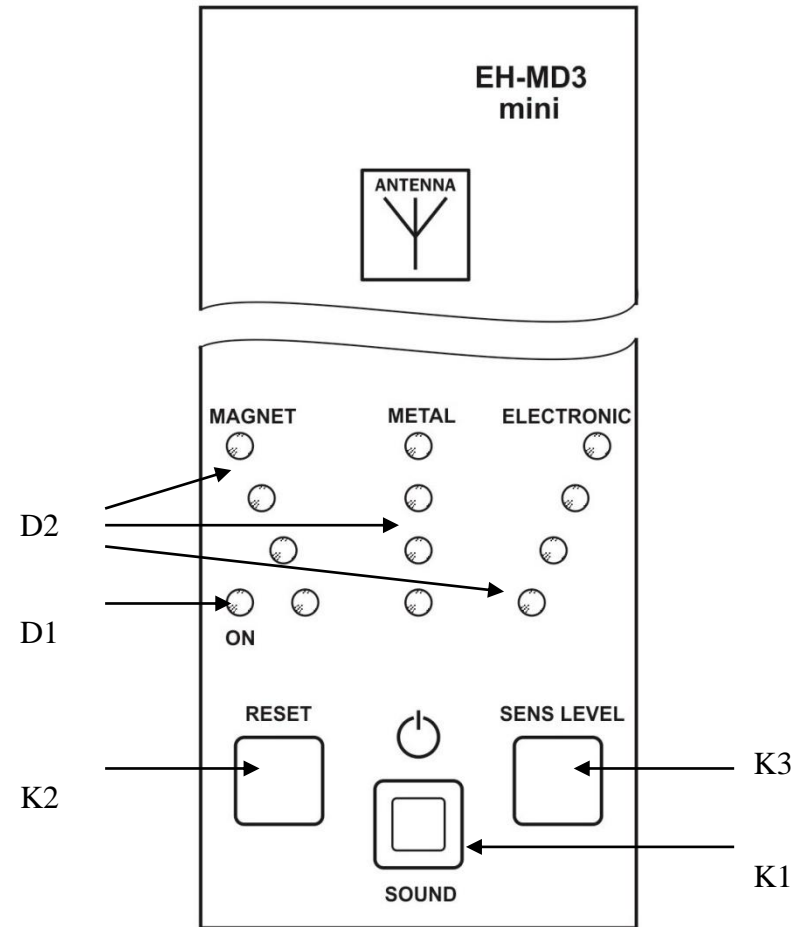

Figure 2
- Switch on the device by pushing the K1 button, the Power On LED indicator (D1) will light green (Fig.2). After a few seconds the detector produces a short beep, then LED indicator of detectors (D2) goes off (the rarely flashing of the first LED indicators D2 is acceptable).
Description of the buttons and scale are shown in figure 2.